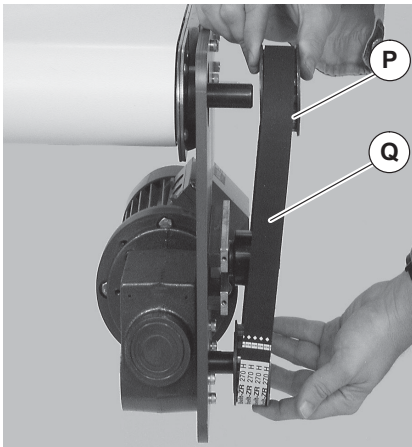

Figure 20
- c. Remove pulley (Figure 20, item P) and timing belt (Q).